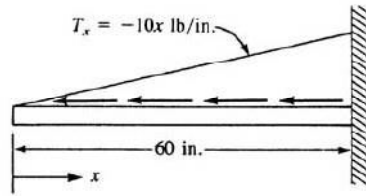

Figure 2
- c) For the rod loaded axially as shown in Figure 2, determine the axial displacement and axial stress. Let $E = 30 \times 10^6$ psi, $A = 2$ in.², and $L = 60$ in. Use (a) one and (b) two elements in the finite element solutions.